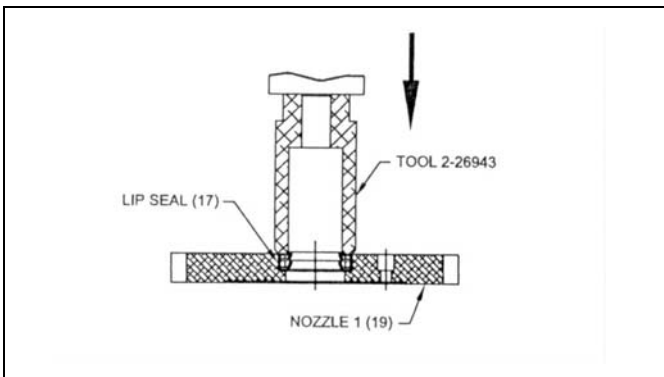

Figure 20. Installing the aft seal into Nozzle 1
Press the aft seal (17) into nozzle 1 (19) using press tool P/N 2-26943 per Figure 20 with the lips facing up.